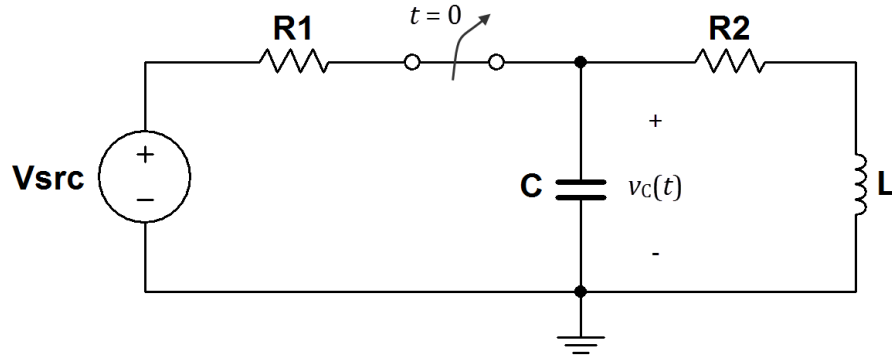

Figure 6.2: Circuit for Problem 6.2
The SPST switch in the circuit of Figure 6.2 on the following page opens at $t = 0$ after it had been closed for a long time.
1. Enter the circuit of Figure 6.2 on the next page using the SPST switch for interactive simulation. Select **Simulate** → **Interactive Simulation Settings** and set "Maximum time step (TMAX)" to $1e-007$ to obtain the needed resolution for this circuit.
1. Construct the circuit of Figure 6.2 on the facing page using the following components and NI ELVISmx instruments (do *not* place resistors R_{sw} and R_w because they simply model the finite resistance of the analog switch and the inductor):